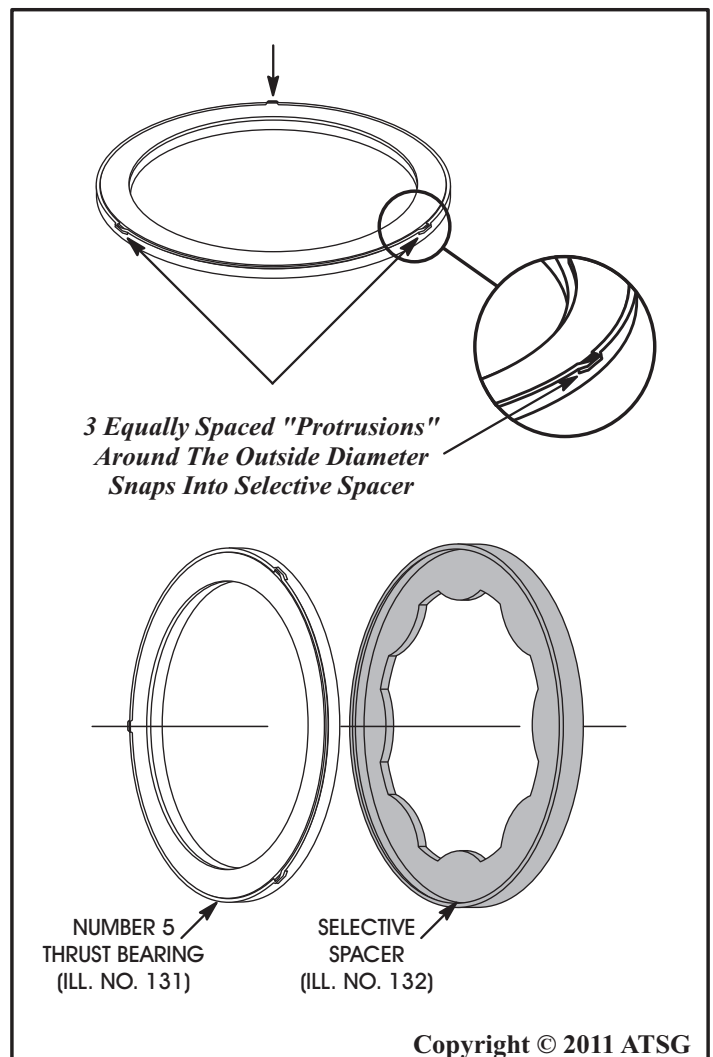
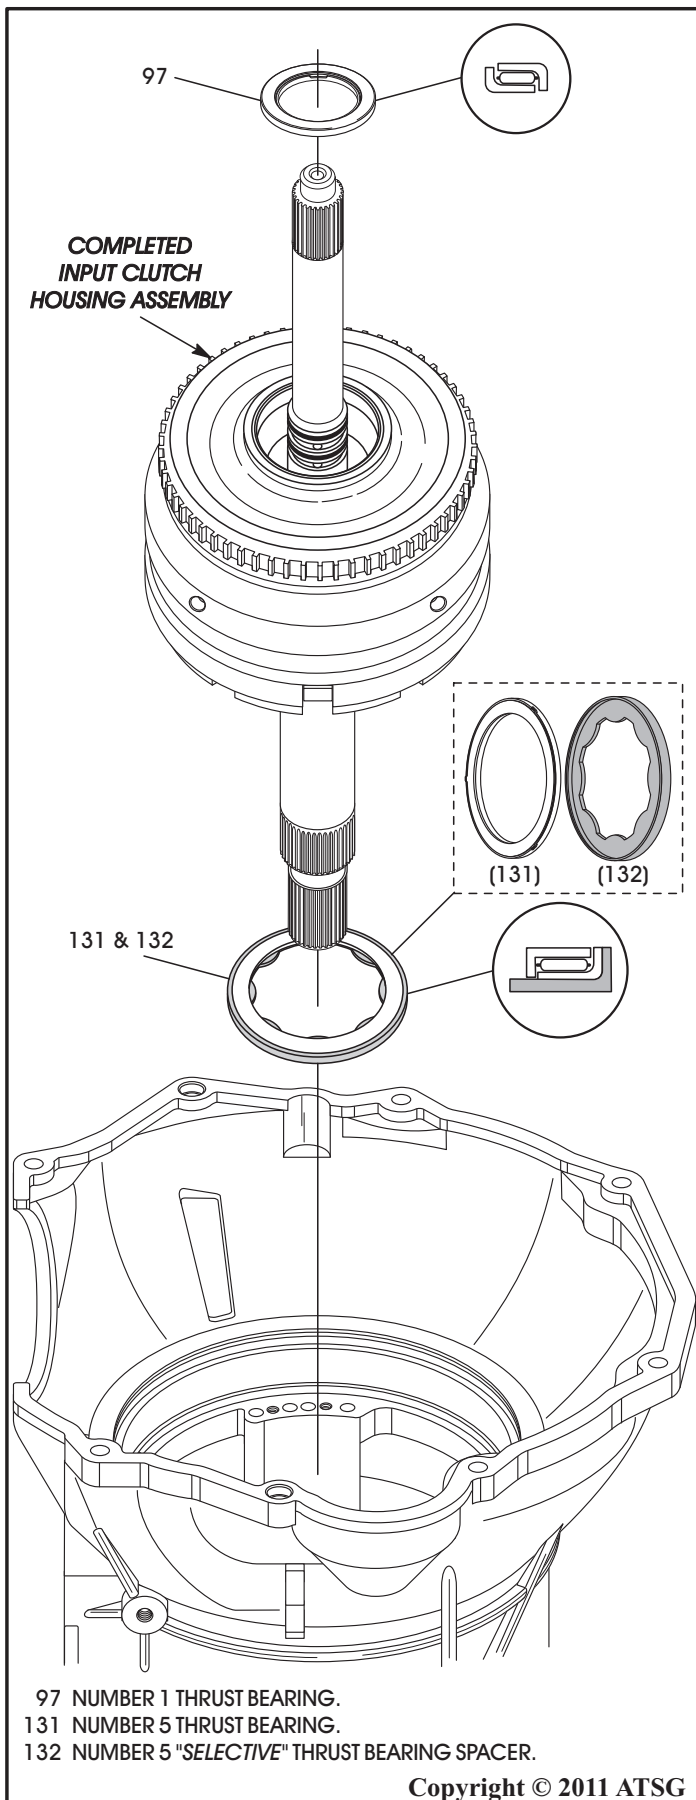
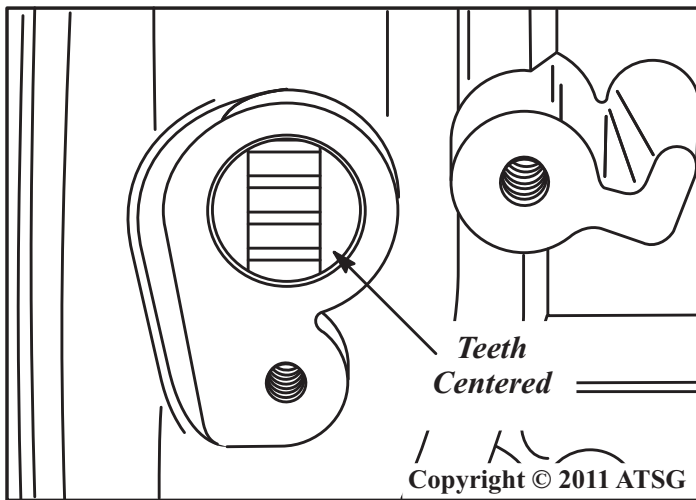

Figure 150
Figure 149
Figure 151
23. Install the number 5 thrust bearing and selective spacer onto back side of reverse clutch hub, as shown in Figure 149, and retain with Trans-Jel®. **Note: Ensure that number 5 thrust bearing is fully snapped into selective spacer, as shown in Figure 150. This spacer is used to set front transmission end-play.**
24. Install the number 1 thrust bearing, in direction shown in Figure 149, down into the pocket of the completed input housing.
25. Install the completed input housing and bearings into transmission case, as shown in Figure 149, by rotating back and forth until fully seated. **Note: The input housing is fully seated when the teeth on input clutch hub are centered in the input speed sensor bore (See Figure 151).**